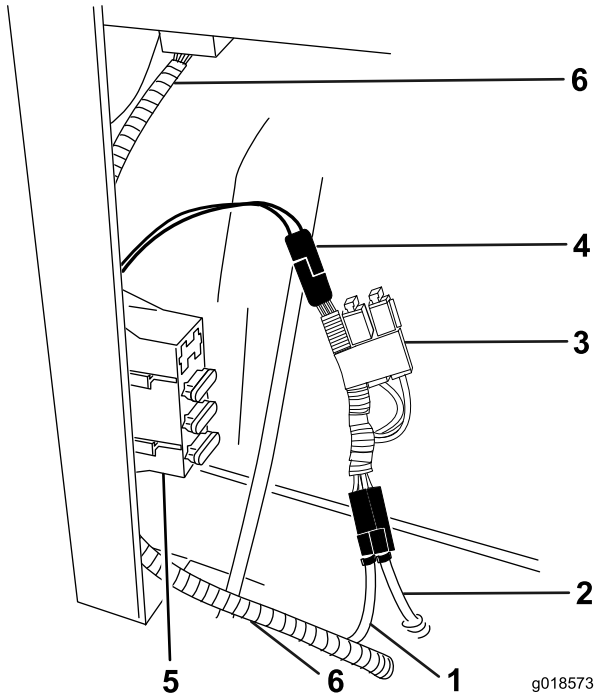

Figure 6
- Plug the single end of the Y-adapter into the short connector behind the fuse block (Figure 6).
- Plug the wire harness for the lights into the other end of the Y-adapter (Figure 6).
- Plug the wire harness for the Hydraulic Cooling Assembly (if present) into the Y-adapter (Figure 6).
**Note:** Position the Y-adapter so that the fuses are in an upright position (Figure 6).